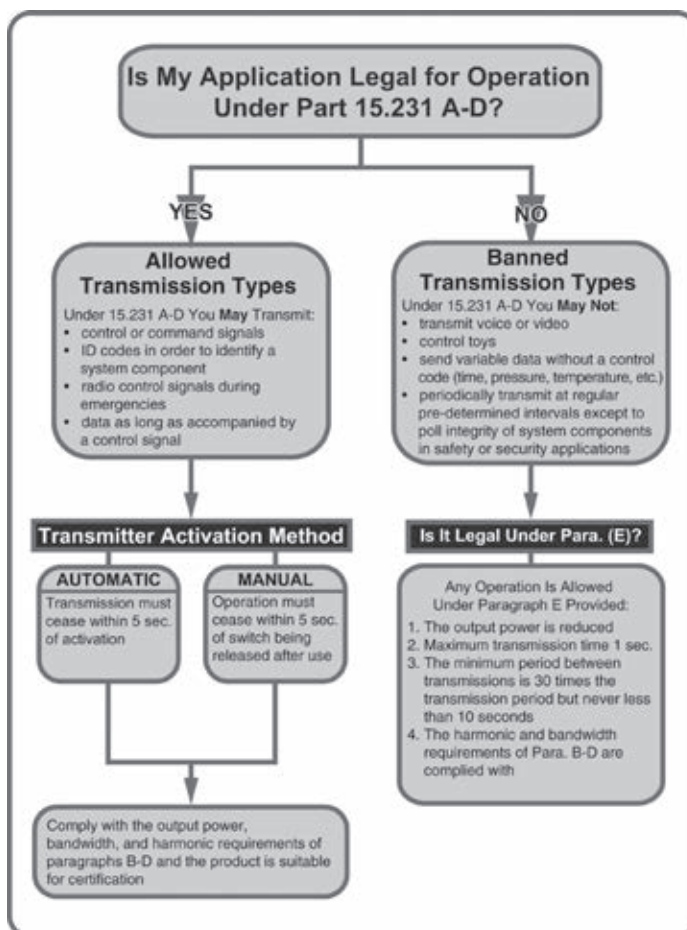

Figure 1: The Part 15 approval process.
You will want to review the text of 15.231 in its entirety. When reviewing this section, it is critical to read paragraphs (A)-(D) as a unit, and recognize that paragraph (E) only applies if the rules of paragraph (A) cannot be met. Given the rules' complexity and application-dependent nature, they are best illustrated in Figure 1.